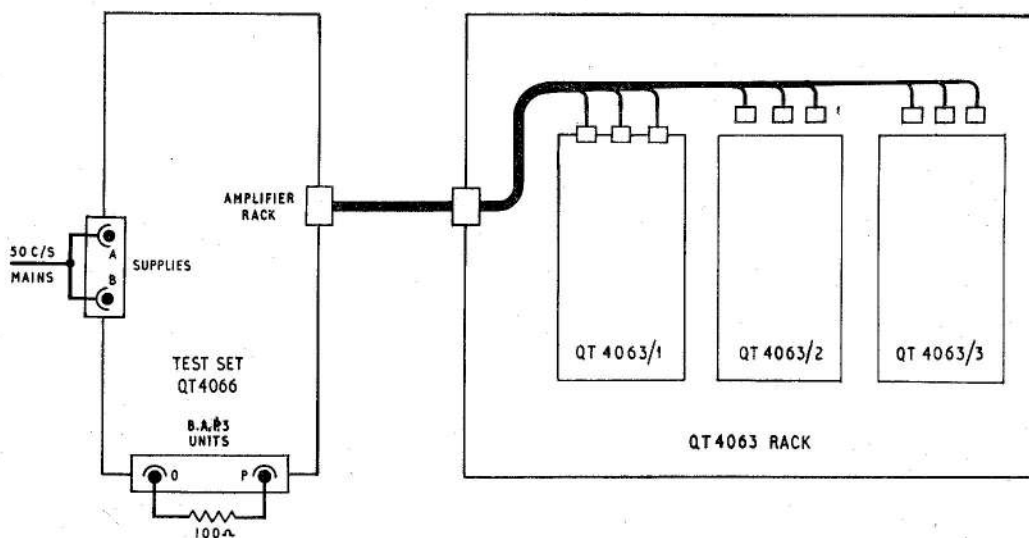

Fig. 4. Test connections
15. Set the two voltage selectors on the power amplifier to suit the mains supply in use. Connect the test equipment and power supply as shown in fig. 4. Note that when a three-amplifier installation is being tested, only one amplifier should be connected at a time.